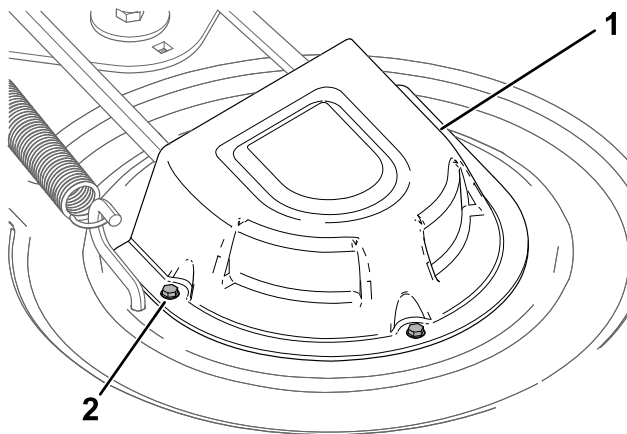

Figure 50
4. Loosen the screws and remove the pulley covers (Figure 50).